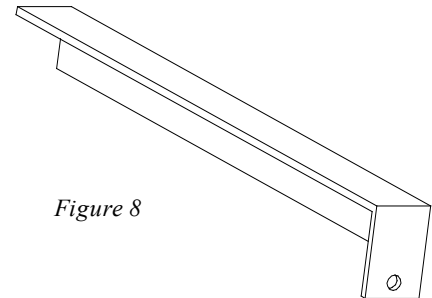

Figure 8
**Installing ramp for radius bulkheads (optional).** To install ramps for trailers with flat top rails, *see figure 8*, place the front of the ramp against the K-Bar with the horizontal portion of the ramp resting on top of the top rail. Mark the ramp along the contour of the radius of the bulkhead. Cut the ramp along this mark and cut off any excess metal leaving at least 6" of the vertical portion of the angle in contact with the side wall of the trailer.